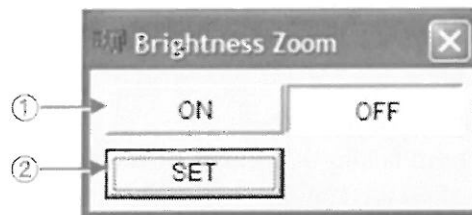

Fig. 4.65 Brightness Zoom window
When the irradiation mode is TEM (Control panel L1-③), it maintains the size of the electron beam automatically when the magnification is changed (Fig. 4.65). Additionally, in order to use this function, irradiation state of α -selector and spot size has to be initialized beforehand.